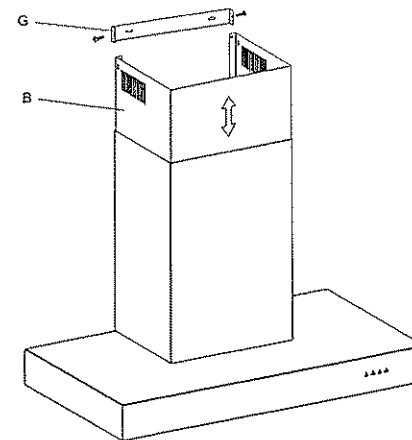

Fig.5
- Next, secure support G to the upper end of the wall, making sure that it is properly aligned with the extendible tube. Extend the movable part of tube B until it reaches support G and connect to the support with the two side screws. (Fig. 5).